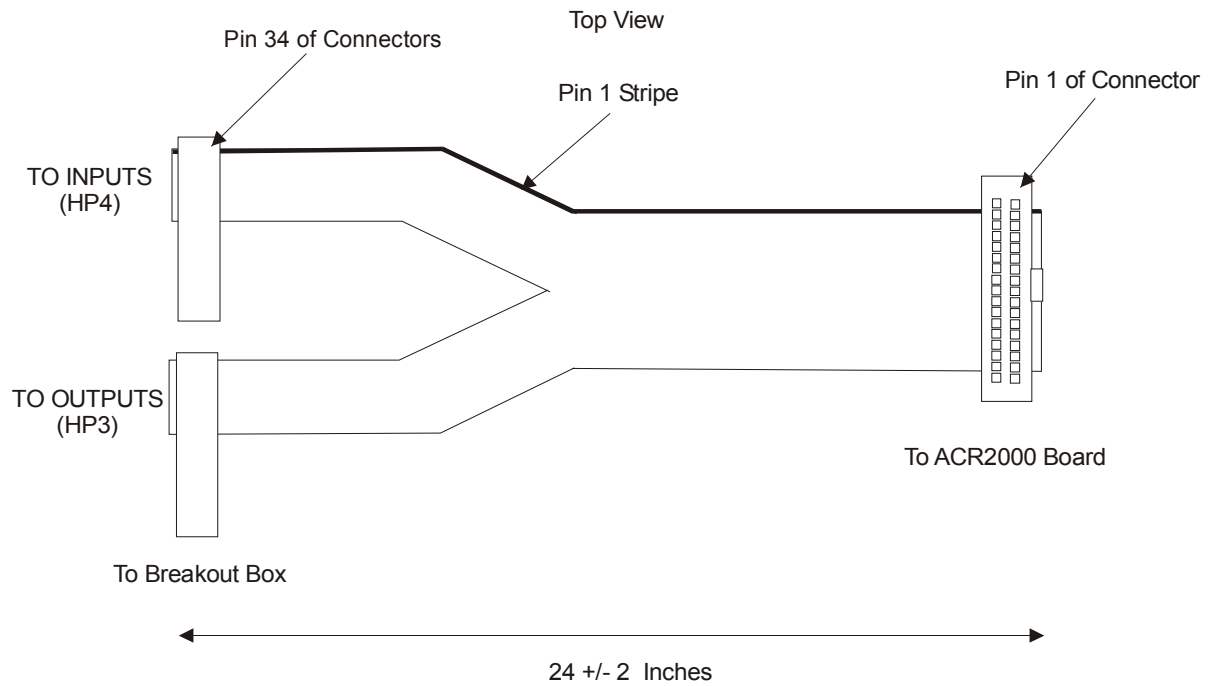

Figure 3. Typical ACR2000 34-Pin Split Digital I/O Ribbon Cable
For the ACR2000, there are two (2) 34-Pin ribbon cables (HP1A, HP5) and one (1) 34-Pin split-ribbon cable (HP3/HP4) supplied. Figure 3 shows a typical 34-Pin split ribbon cable for ACR2000 Digital I/O connections.
**ACR2000 uses a split ribbon cable. See Figure 3.